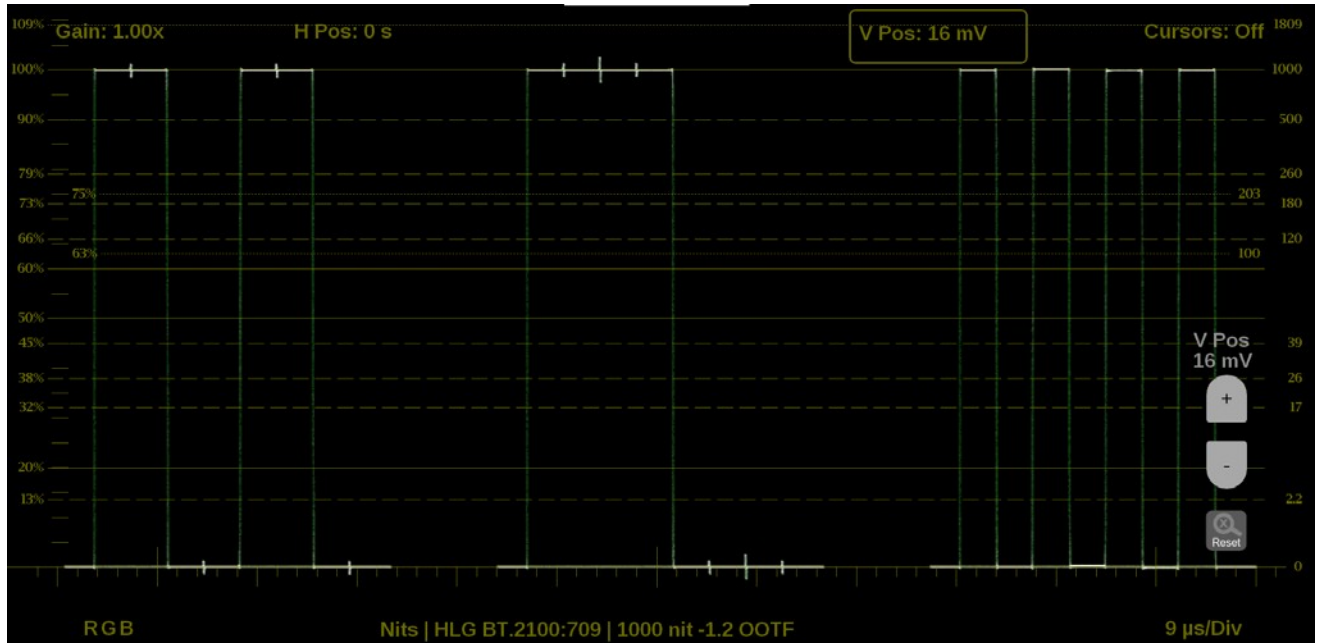

Figure 90: Waveform on-screen tools – vertical position
2. Select the **V Pos** button to adjust the vertical trace. (See Figure 90.)